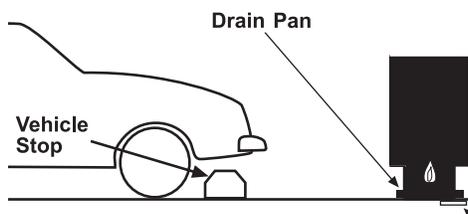

Figure 16. Garage Installation
3. Locate the water heater so it is protected and not subject to physical damage by a moving vehicle. In garage installation avoid damage to your water heater by installing a vehicle stop as shown in Figure 16. Check state and local codes for requirements prior to installation.
11. Do not locate the water heater where the subsequent installation of the vent (exhaust) or intake air terminations would be objectionable due to noise at the termination(s). This includes locations close to or across from windows and doors. See *Power Direct Venting (PDV)* (page 25) and *Power Vent (PV)* (page 31).